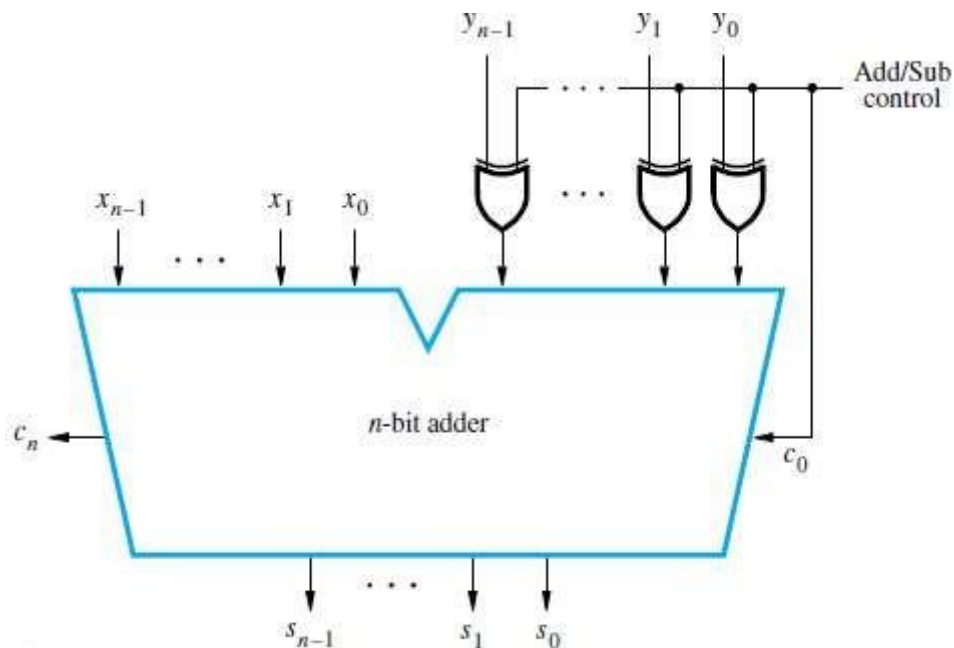

Figure 9.3 Binary addition/subtraction logic circuit.
- The n -bit adder can be used to add 2's complement numbers X and Y (Figure 9.3).